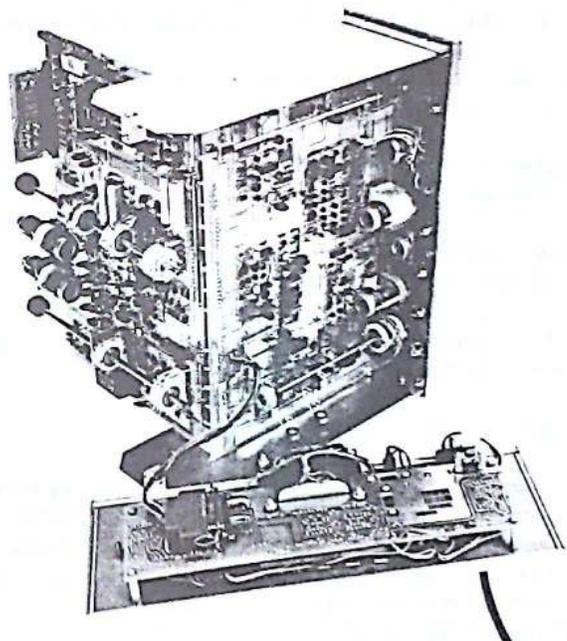

Figure 4-1. Model 147 in the Maintenance Position
5. To put the main board in the maintenance position (see Figure 4-1), stand the main board up and slowly lower it onto the pin.